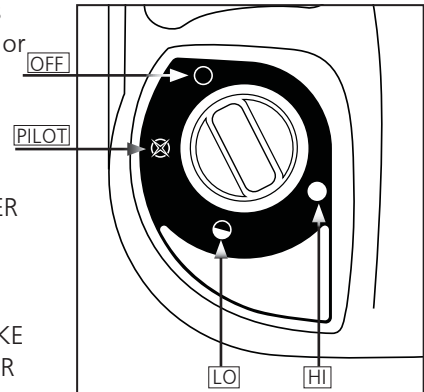
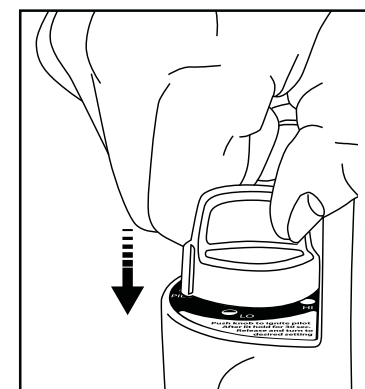

Figure 1: Control Knob
Figure 3: Ignition
- Make sure four-position Control Knob is in "OFF"  position: see Figure 1.
- Turn Control Knob counterclockwise to "PILOT" position  and depress to light; see Figure 1 and Figure 3.
- After burner tile has turned bright orange, adjust heat output by turning Control Knob to desired position ("LO"  or "HI"  setting) Figure 1.